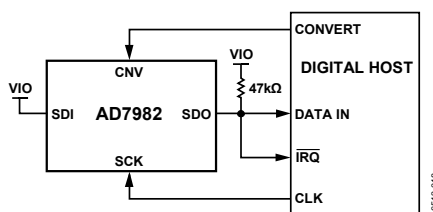
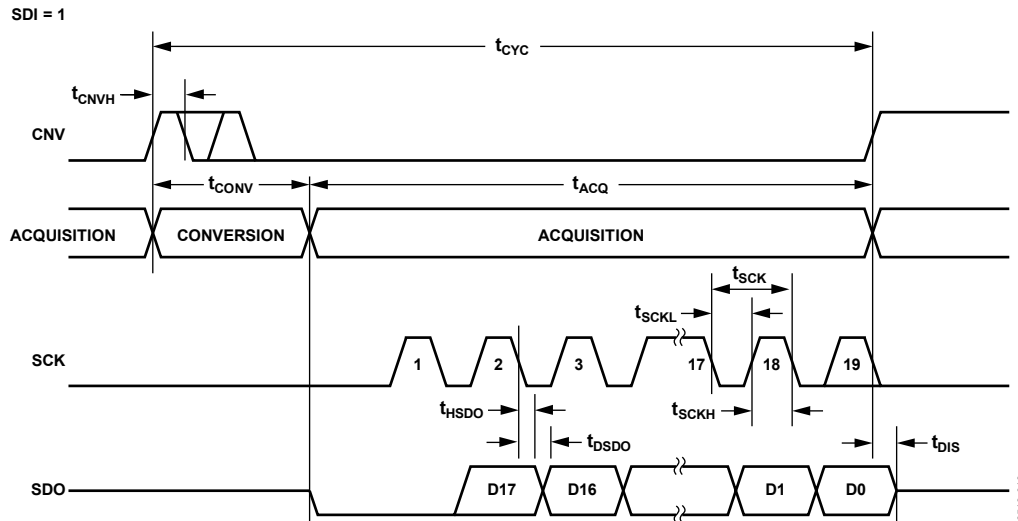

Figure 31. $\overline{\text{CS}}$ Mode, 3-Wire with Busy Indicator Connection Diagram (SDI High)
Figure 32. $\overline{\text{CS}}$ Mode, 3-Wire with Busy Indicator Serial Interface Timing (SDI High)
- In the $\overline{\text{CS}}$ mode if CNV or SDI is low when the ADC conversion ends (see Figure 32 and Figure 36).
The connection diagram is shown in Figure 31, and the corresponding timing is given in Figure 32.